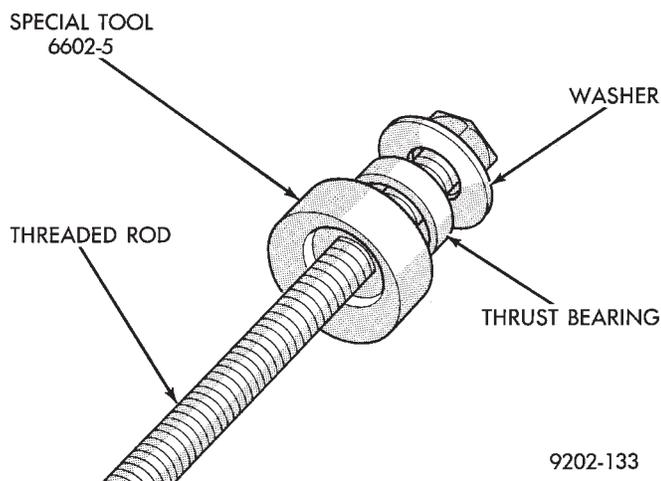

Fig. 3 Bushing Removal Tools
(1) Position and clamp lower control arm in a vise.
(2) Assemble the washer, thrust bearing and large bushing disc, Special tool 6602-5 onto the threaded rod from Bushing Remover/Installer, Special Tool 6602 (Fig. 3).